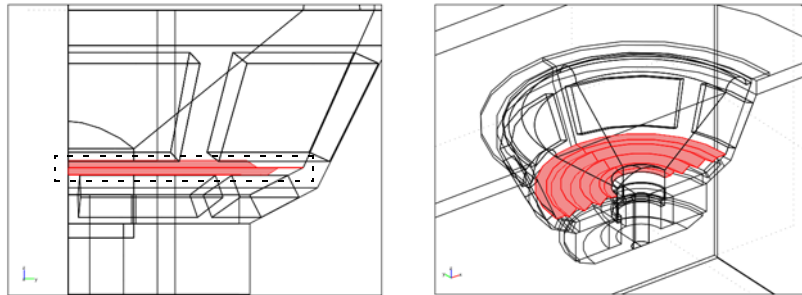

Figure 3-44: The spider boundaries, in the yz plane and in the default 3D view.
- 3 Use the **Zoom Window** button on the Main toolbar to zoom in on the driver; then draw a box to select the spider boundaries, as in Figure 3-44, which also shows an isometric view of the same selected boundaries.